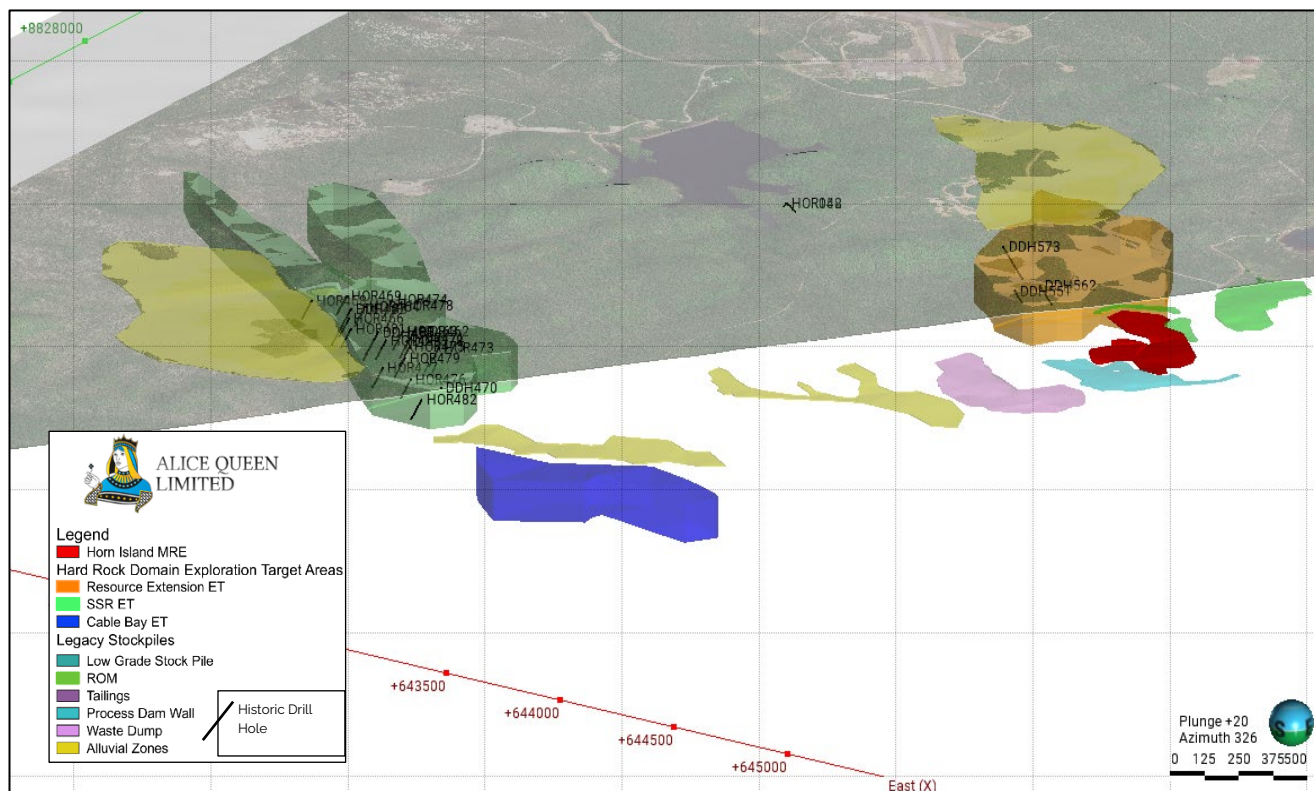

Figure 2: 3D sectional view of exploration target areas with Historic drill hole traces
- ◆ Addition of Figure 2: 3D sectional view of exploration target areas with Historic drill hole traces on page 4